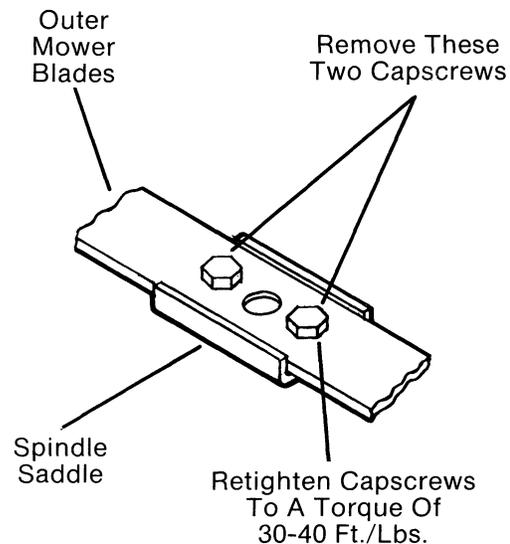

FIG. 12
- B. Remove **two** capscrews, lockwashers and hex nuts that secure each outer blade to spindle assembly. (Fig. 12) Remove blades from spindles.